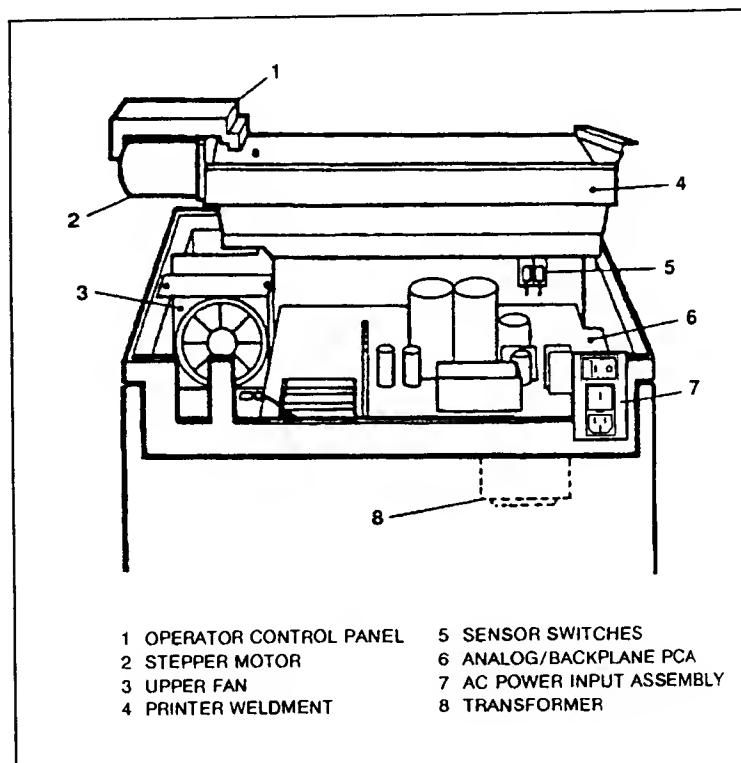

Figure 6-2. HP2300 Printer Assemblies, Rear View
- b. Set the printer's ON/OFF switch to the OFF (0) position and disconnect the input power cable.
- c. Open the printer's top access door. Using a #2 Pozidrive screwdriver, loosen the two captive screws recessed below the upper front edge of the printer (see Figure 6-2, item 1).